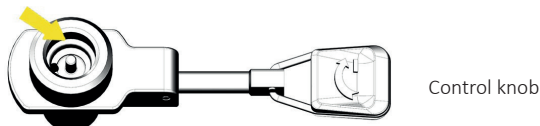

FIGURE 1. O-Ring
Make sure that the "O-ring" seal (Figure 1) is in place and in good condition before connecting the appliance to the gas cartridge.
- 1) Make sure the gas is fully closed by turning the adjustment lever (Figure 1) clockwise as far as possible.